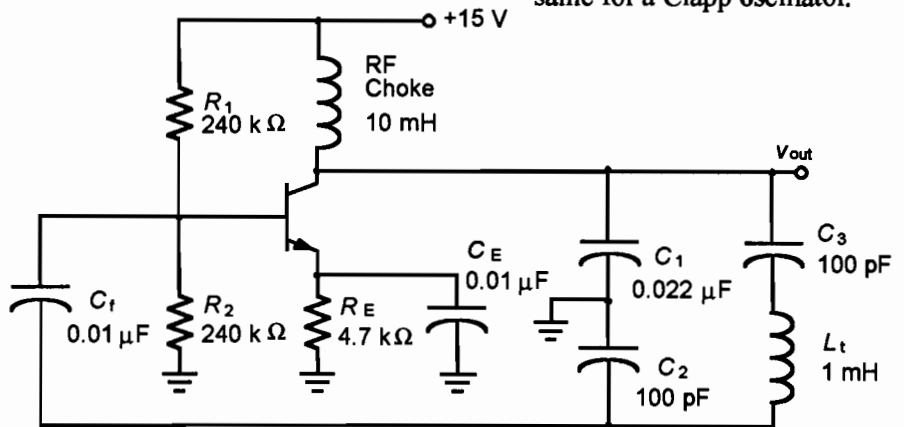

Figure 51.2
1. Disconnect power. Insert a 100-pF capacitor between the output and  $L_t$  to create the Clapp oscillator of Figure 51.2. Disconnect the 20-pF capacitor in the transistor base.